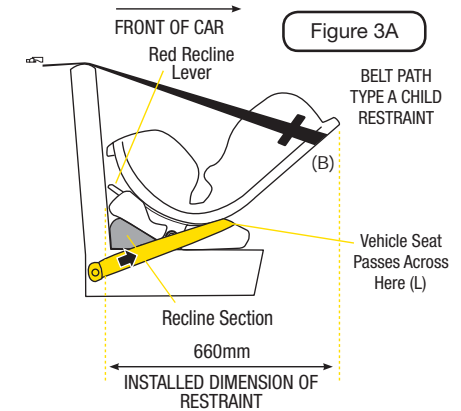

Figure 3A
For dimensions of restraint when installed, see figure 3A below.
- Step 2: Position restraint on vehicle seat. Ensure recline section is swung forward (see figure 3A) and also that the restraint is directly in line with anchorage point.
**IMPORTANT:** Recline Section must always be used in the rearward facing mode (infant position) as shown in figure 3A. i.e the plastic Recline Section is swung forward so it is located underneath the front of the base.